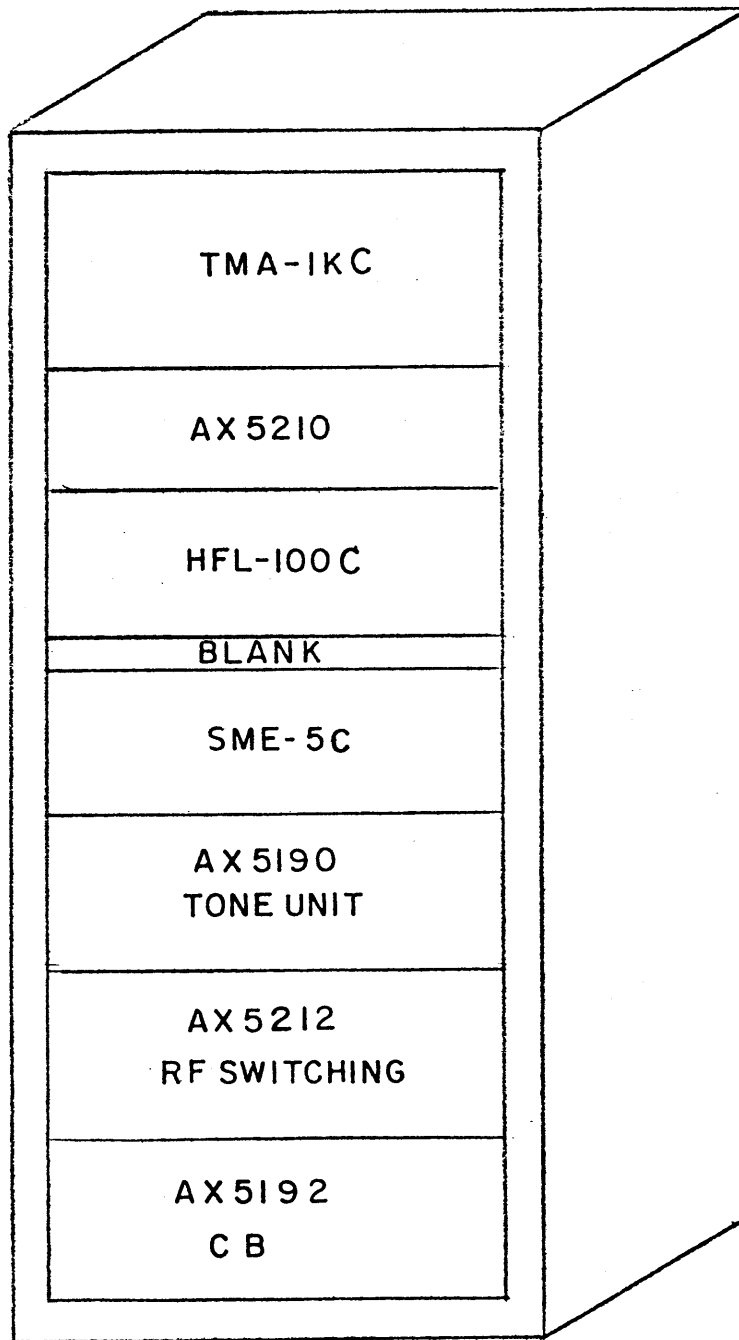

FIG. 2-1 MODULAR COMPONENTS
The GPTR-1KC transmitter is housed in a single 4 foot cabinet (See figure 2-1). The main modular units that make up the system are slide mounted for ease of maintenance. The modulators are linear power amplifier, TMA-1KC, Fan Assembly AX5210, High Gain Amplifier HFL-100C, exciter SME-5C, Decoder AX5190, RF switching AX5212 and main AC circuit breaker panel. Two fans are mounted on top of cabinet to exhaust heat from cabinet.
b. UNIT INSTALLATION. The tracks for the slide mountings which support the modular components of the transmitter are already mounted in the cabinet. It is therefore, a simple task to slide the units into the correct position as shown in figure 2-1.